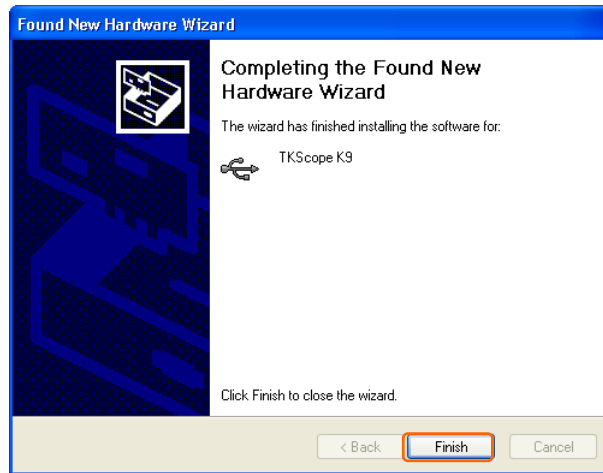

Figure 2.8 New hardware installation has completed
4. Driver installed, the system will pop-up dialog box as shown in Figure 2.8, click [Finish] to complete.